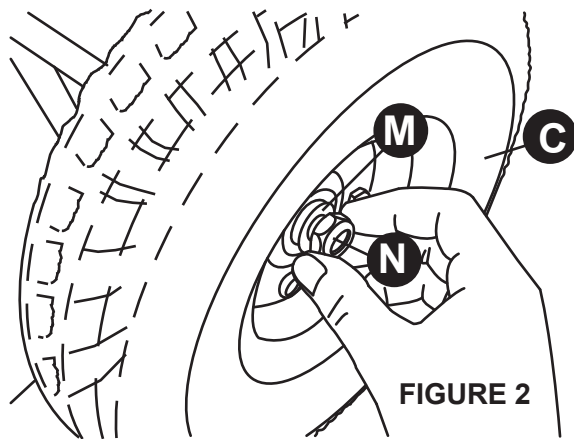

FIGURE 2
2. Place the tires (C) over the axle with the air valve facing out. Place the axle washer (M) over the thread and screw on the axle nut (N) and tighten securely. Repeat for each remaining tire. See Figures 2 & 3